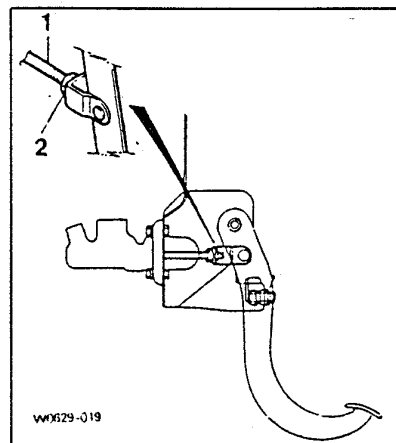

Figure 2
Slacken lock nut (2) , adjust the clutch pedal free play to the nominal value by rotating the push rod (1) and then tighten the lock nut (2). See figure 2